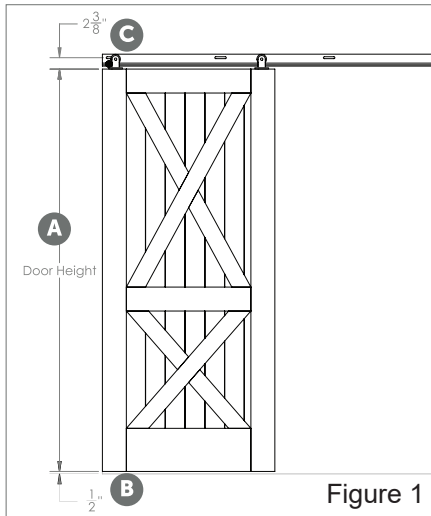

Figure 1
2. Place the hanger on the door (Figure 1).
1. To determine where the track brackets and the track should be installed (Figure 1), first measure the height of the door (A), then add 2-7/8" to the door length. 1/2" will be for the clearance between the bottom edge of the door and the floor (B). 2-3/8" will be from the top edge of the door to the center of the hole in the track and the track brackets (C).